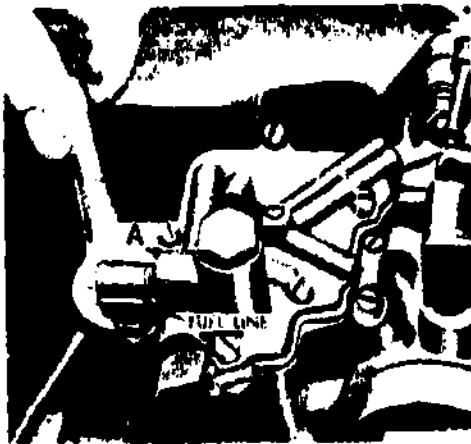
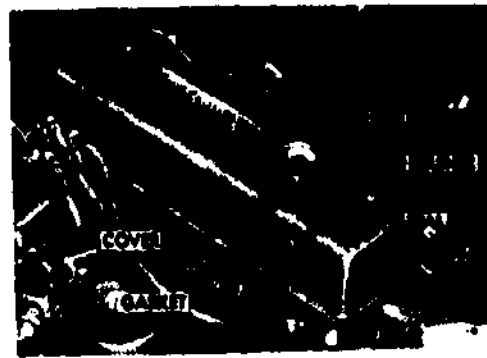

Fig 2-14. Fuel lines loose.
Fig 2-15. Oil leaks.
(9) Inspecting for leaks can be very misleading; for example, a leak in a fuel line at point A, figure 2-14, could be leaking and flowing down the line, which at first glance may lead you to believe the lower fitting is leaking. A good procedure is to make sure first which fitting needs the tightening, tighten it, and then check the rest. Fittings, for the most part, will probably be brass; they will round over very easily if the proper size wrench is not used, and break or twist off if too much pressure is exerted. During your before-operation check, use your nose. You will probably smell brake fluid and gas before you determine where the leak is. Look at the situation, and pay particular attention to any discoloration around the engine and radiator as discoloration is a good tip that something is leaking. There may be times when it is hard to determine if there is a leak; for example, if the previous operator was required to add oil and was sloppy in doing so, oil could run down over the valve cover, figure 2-15, and possibly give the appearance that the valve cover is leaking. The excess oil in that area should be wiped dry and rechecked at the earliest opportunity. Do not get in the habit of accepting leaks without checking them out. A slight seepage, for instance, around the oil pan could mean a rock bruise that has penetrated the oil pan or pan bolts could be missing or be extremely loose.